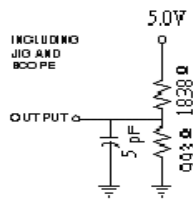

FIGURE 1B
5.) Transition is measured $\pm 500mV$ from steady state with $CL = 5pF$ as shown in Figure 1B. The parameter is guaranteed but not 100% tested.
10. Transition is measured $\pm 500\text{mV}$ from steady state with $C_L = 5\text{pF}$ as shown in Figure 1B. The parameter is guaranteed but not 100% tested.